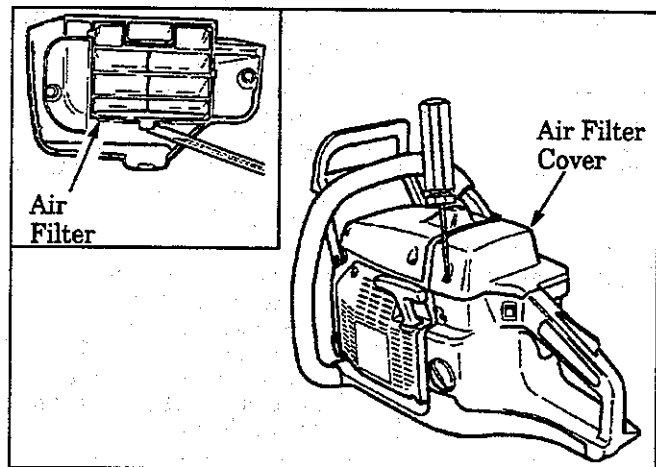

Figure 43
- Loosen the air filter cover screws and remove the air filter cover. Figure 43.
- Using a screwdriver, remove the air filter from the air filter cover. Figure 43.